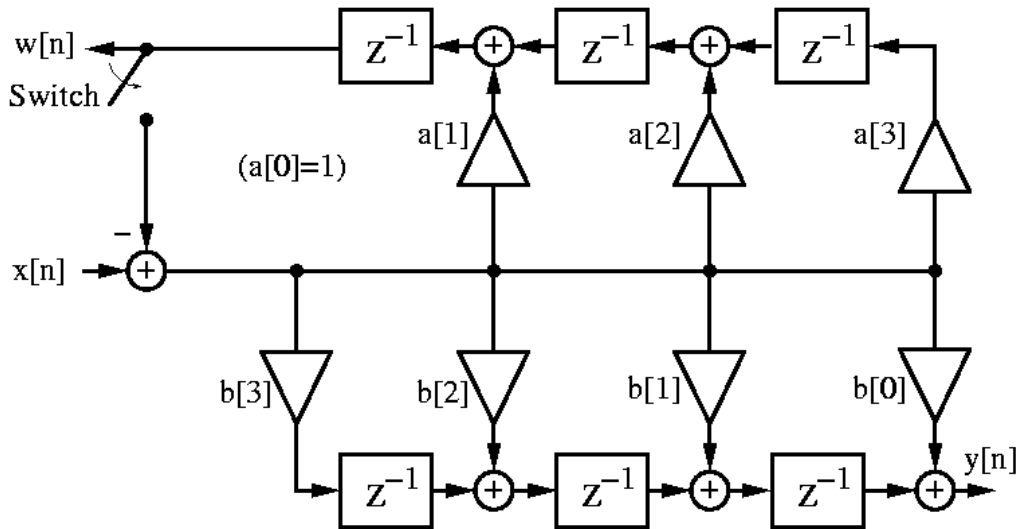

Figure 4: Third-Order IIR Filter.
1. In this part of the lab a third order IIR elliptic filter is designed as shown in Figure 4. A switch is used in the design process that we can clearly see the forward (via $y[n]$) and the feedback (via $w[n]$) coefficients in the simulation.